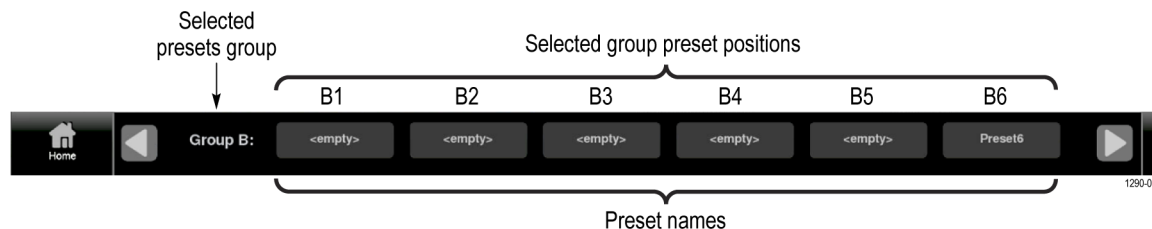

Figure 57: Preset selection controls (Group B shown)
- e. When you select OK, the preset name changes from **<empty>** to **Preset<number>**, where the number is the preset position within the preset group. (See Figure 57.)